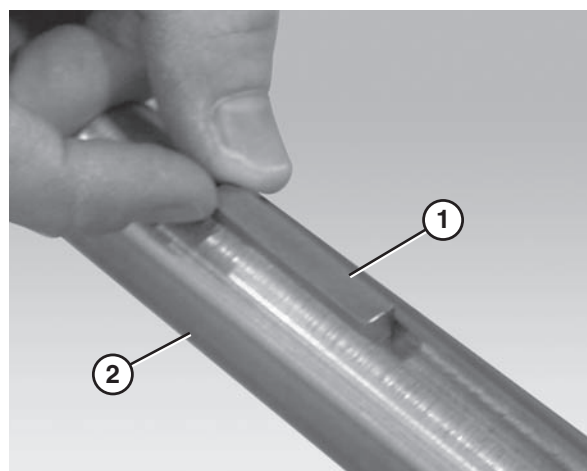

Figure 26
1. Insert the drive spindle key (Figure 26, item 1) into the drive spindle keyway (Figure 26, item 2).